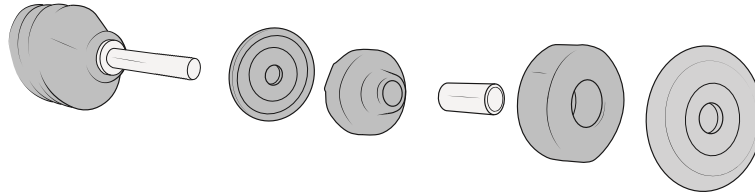

Figure 31
10. Assemble the shock bushings as shown (fig. 31) then install AEV shocks. Torque the lower bolt to 89 lb-ft